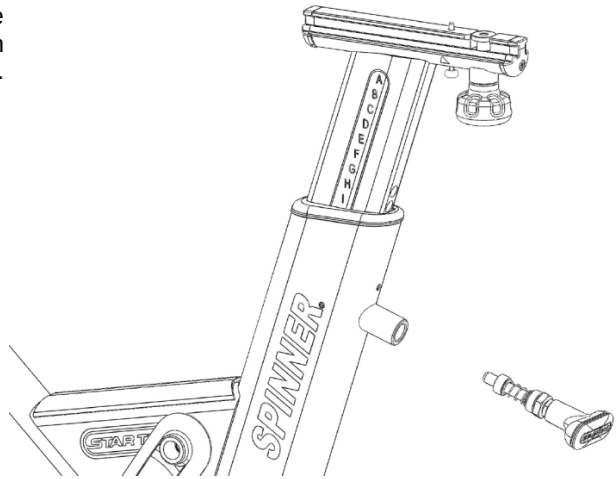

Fig. 16
16. Locate and install the seat height adjustment pop pin onto the Spinner frame (Fig. 16) using the supplied multi size open wrench.